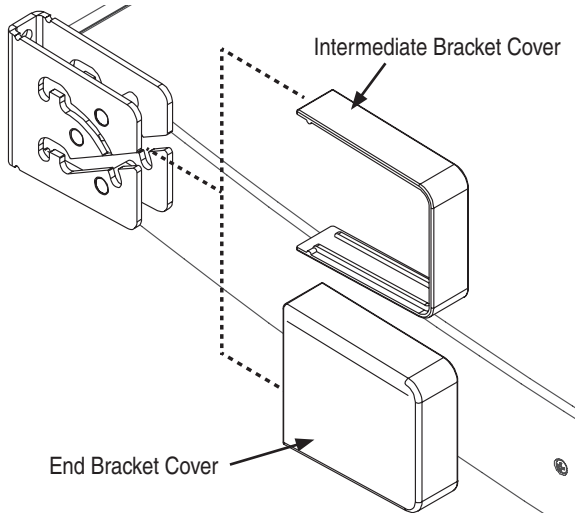

Figure 6
- ⑦ Slide Bracket Covers onto FlexWave Mounting Brackets until they snap into place (see Fig. 6). Make sure Covers are fully engaged—they will help keep the light shelf in place.